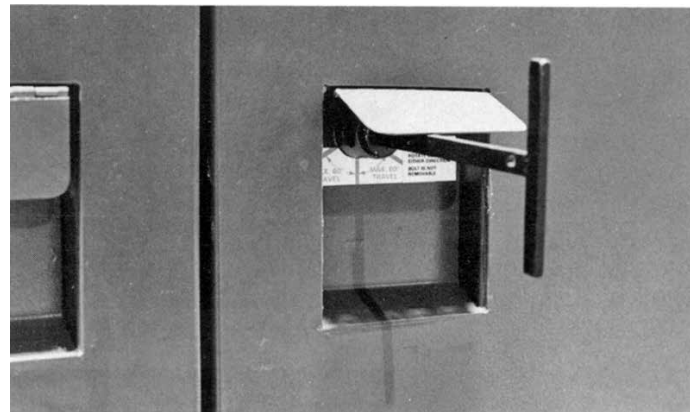

Figure 25.
2. Using a standard 9/16 inch socket for hexhead security bolt or standard pentahead socket for pentahead security bolt, rotate the captive actuator bolt head 60° in either direction to release latching mechanism. (Figure 25)